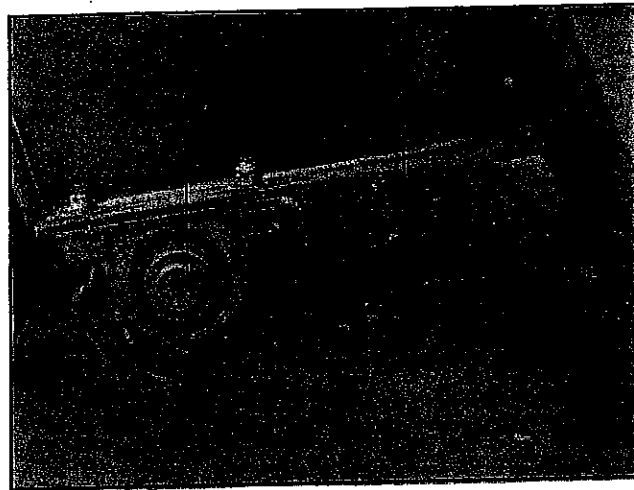

FIGURE 24 - BED DRAPER CHAIN
The bed draper chain (see Figure 24) is tensioned by loosening two pillow block bearings (A) immediately behind outside lifter wheels. Adjust both sides equally with take-up bolt (B), so the draper chain sags approximately 1". Make certain tension is equal on right and left hand sides. If end of adjustment is reached, loosen draper chain and remove a link.